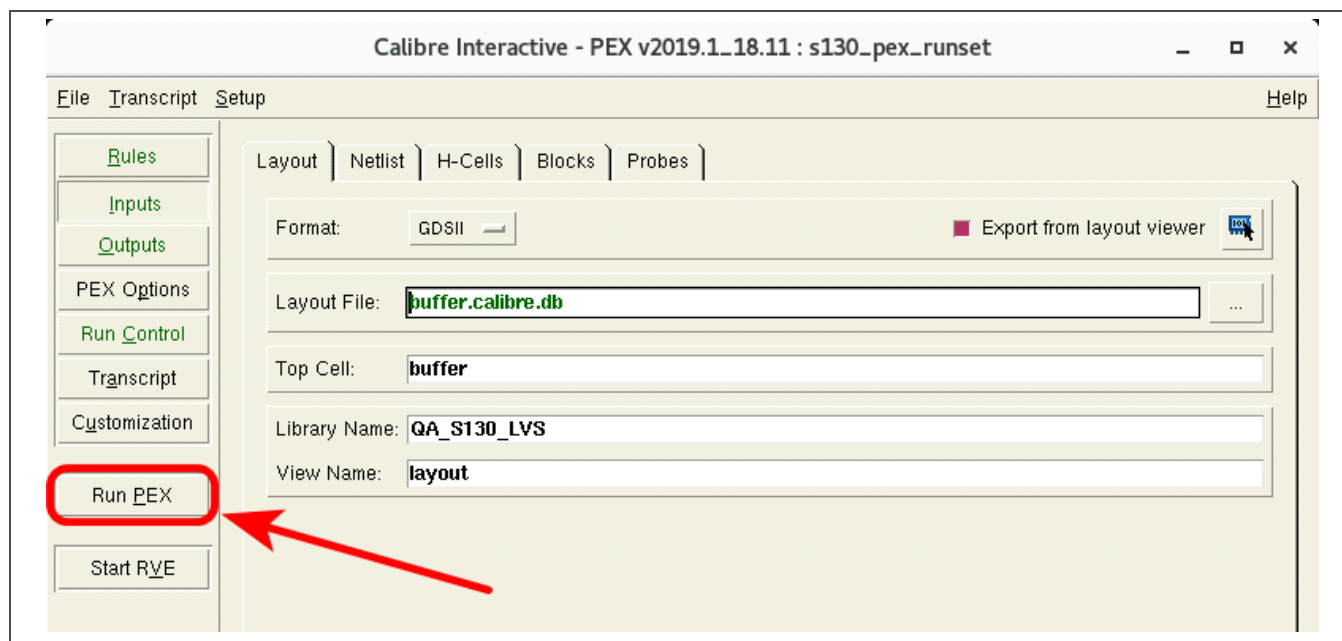

Figure 6-3. Calibre Run PEX Command
3. Click on the **Run PEX** button in the Calibre user interface, as shown in *Figure 6-3* on page 92, to begin the run.